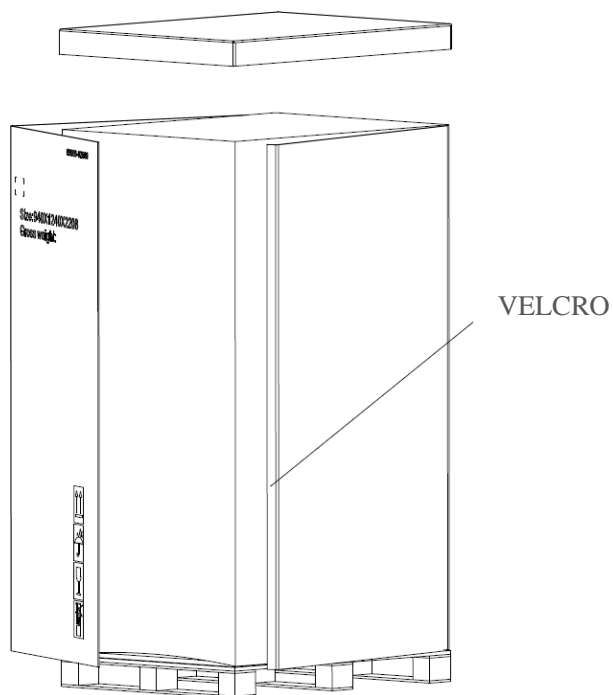

Figure 3-4 Disassemble the box
Step 3: Remove the top cover, tear off the Velcro, and remove the carton fence as Figure 3-4: